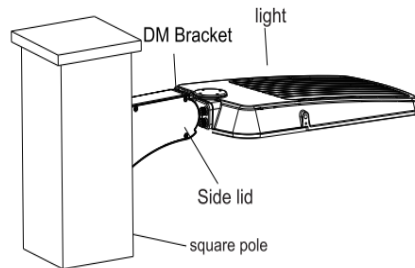

Figure 8
Step 2: Put the connected wire into the junction box, then cover the junction box.(Figure 8)